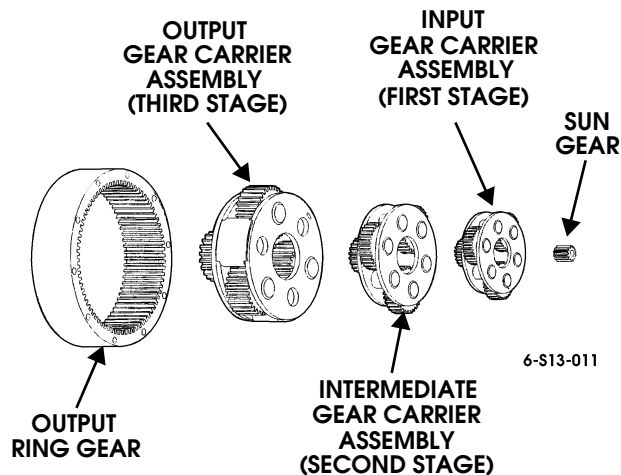

Figure 9-170: Gear Carriers
7. Inspect gear teeth, splines, and machined surfaces of output ring gear, output gear carrier, intermediate gear carrier, and input gear carrier assembly for damage. Replace any damaged parts (Figure 9-170).